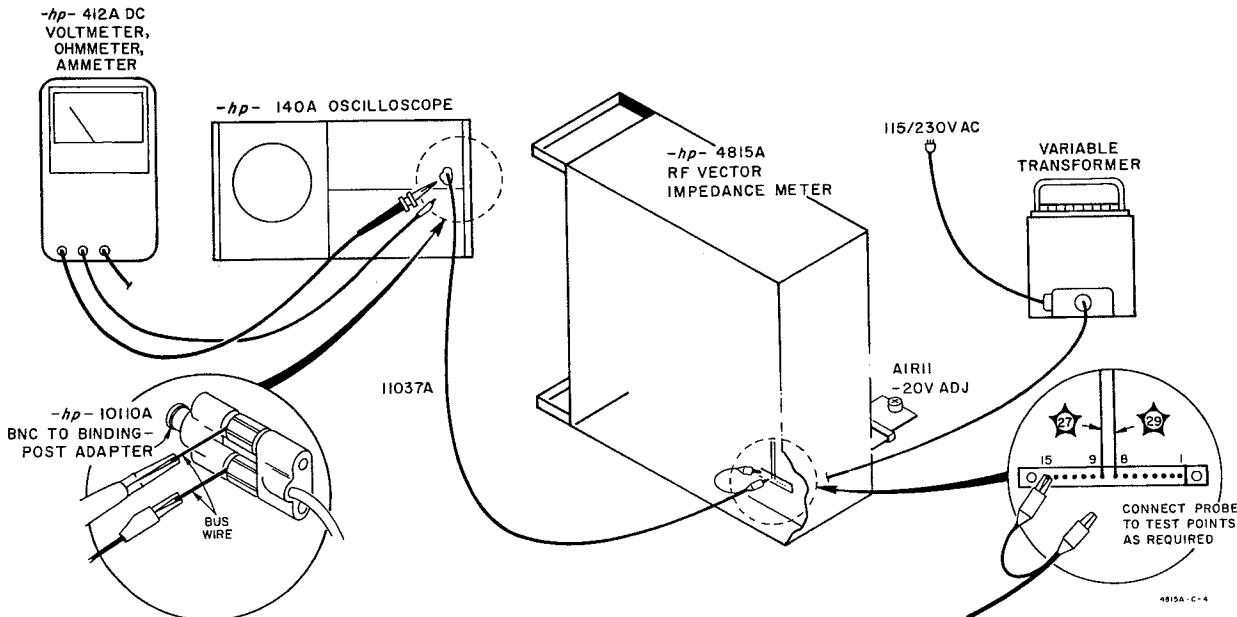

Figure 5-5. Setup for Power Supply Check
- a. Remove top and bottom cover plates. Rest 4815A on left side and make connections as shown in Figure 5-5.
- c. Connect DC Voltmeter and Oscilloscope to -20 V $\star\star$ XA1 (9).
- g. Connect DC Voltmeter and Oscilloscope to $\star\star$ XA1 (8).